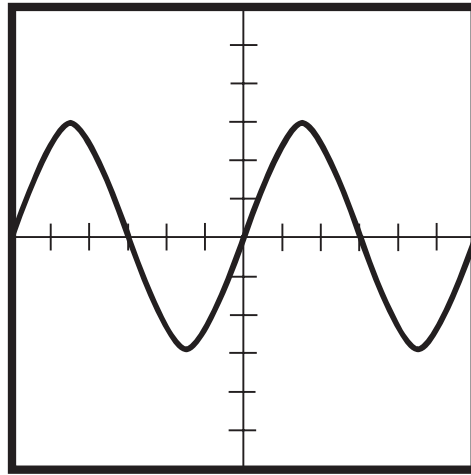

Fig. 6-7. Illustration for Quiz Questions 1 through 4.
1. Suppose you see an AC sine wave on an oscilloscope, and the oscilloscope screen looks like Fig. 6-7. You have the scope set so each horizontal division represents exactly 5 ms and each vertical division represents exactly 1 V. The period of this wave is approximately
2. If each horizontal division in Fig. 6-7 represents exactly 5 ms and each vertical division represents exactly 1 V, then the frequency of the wave is approximately
3. If each horizontal division in Fig. 6-7 represents exactly 5 ms and each vertical division represents exactly 1 V, then the positive peak voltage of the wave, assuming there is no DC component superimposed, is approximately
4. If each horizontal division in Fig. 6-7 represents exactly 5 ms and each vertical division represents exactly 1 V, then the rms voltage of the wave, assuming it is a perfect sine wave and there is no DC component superimposed, is approximately